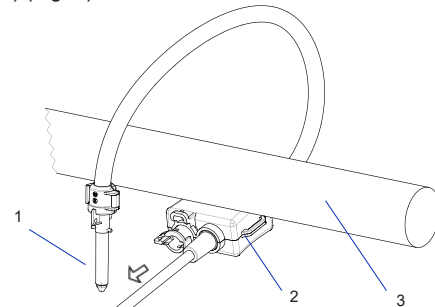

Figure 1
- To open the ARH Rogowski coil, turn the bayonet catch (1) to the left (anti-clockwise) and draw the coil cable out of the enclosure (2).
- Make sure that the arrow on the ARH label (4) is pointing towards the load
- Guide the Rogowski coil around the power cable (3) (Fig. 1).